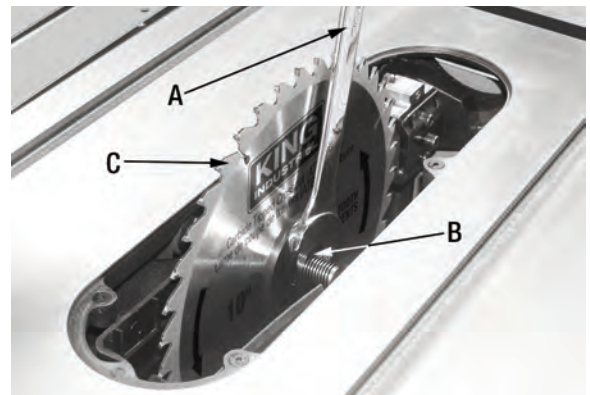
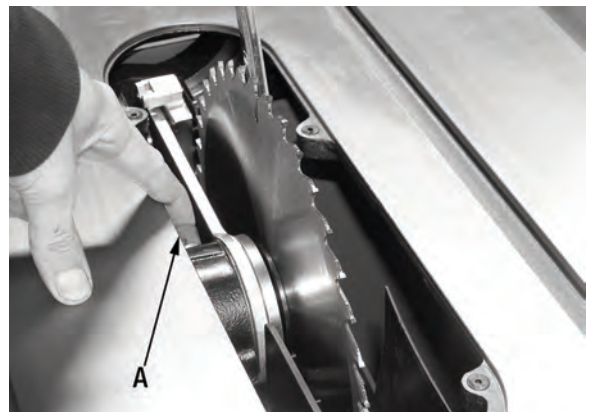

FIGURE 10
FIGURE 11
3. Place the blade 27mm wrench (A) Fig.10 on the arbor nut (B).
4. Press the red spindle lock button (A) Fig.11 and pull the wrench toward you (counterclockwise to loosen). Remove the arbor nut, flange (under arbor nut) and saw blade (C) Fig.10.
6. Press the spindle lock button (A) Fig.11, using the 27mm wrench provided, securely tighten the arbor nut by pushing the wrench away from you (clockwise to tighten). Remove the wrench and reinstall the table insert.